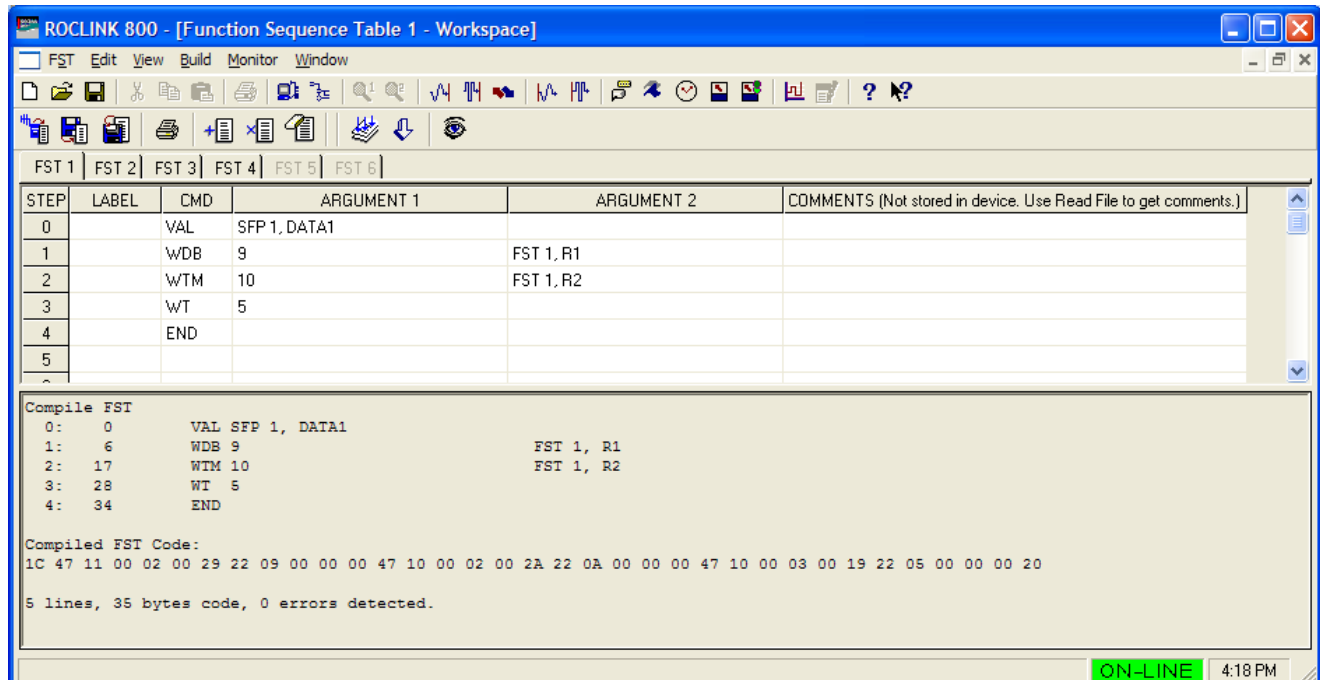

Figure 4-6. Compiled FST
5. Click the **Compile FST** button () on the FST Editor menu bar. The FST Editor compiles the FST. Any errors display in the area below the FST workspace (see *Figure 4-6*):